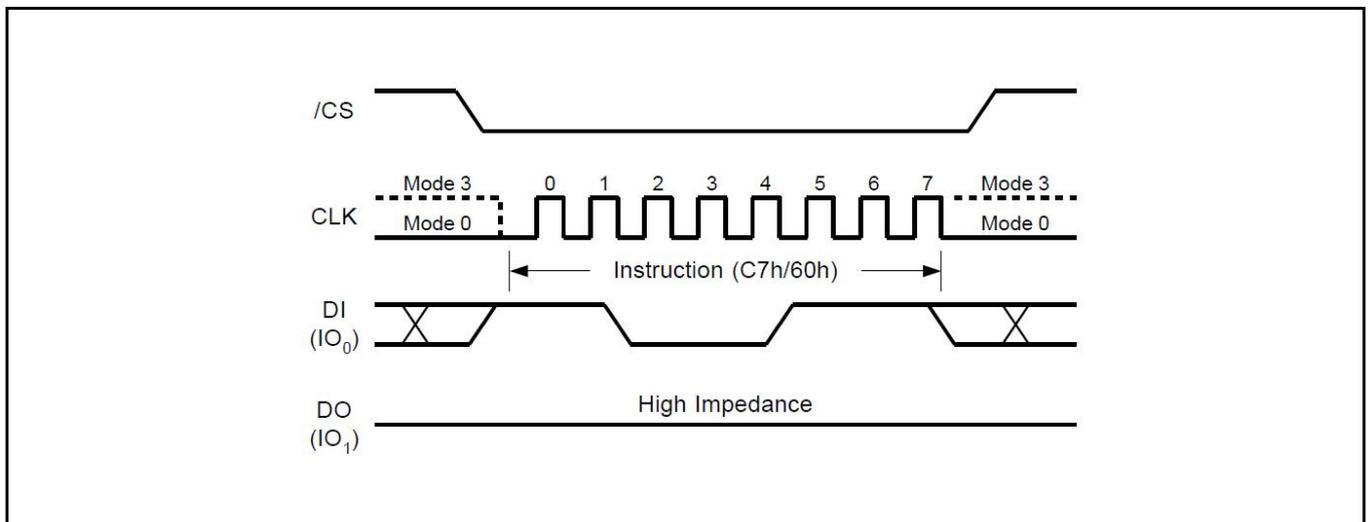

Figure 19. Chip Erase Sequence Diagram
The Deep Power-Down Mode automatically stops at Power-Down, and the device always in the Standby Mode after Power-Up. The Deep Power-Down command sequence: CS# goes low → sending Deep Power-Down command → CS# goes high. The command sequence is shown in Figure19. CS# must be driven high after the eighth bit of the command code has been latched in; otherwise the Deep Power-Down (DP) command is not executed. As soon as CS# is driven high, it requires a delay of  $t_{DP}$  before the supply current is reduced to  $ICC2$  and the Deep Power-Down Mode is entered. Any Deep Power-Down (DP) command, while an Erase, Program or Write cycle is in progress, is rejected without having any effects on the cycle that is in progress.